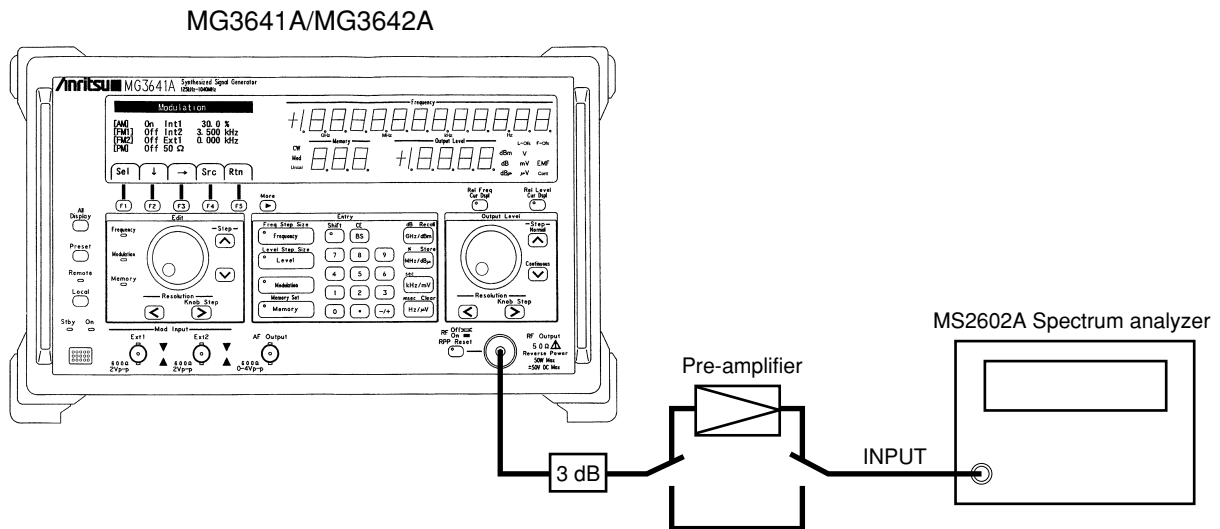

Fig. 7-3 Output Level Accuracy Test
13.	Set the MS2602A RF attenuator to 25 dB and reference level to -3 dBm, and set the pre-amplifier as shown in Fig.7-3.